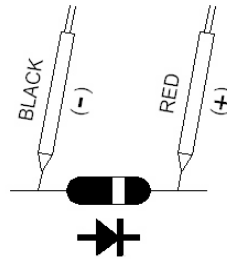

Fig. 3
- b. When connected as shown in Fig. 3, a reverse check on the diode is made. If the diode under test is good, " 1 " will be displayed. If the diode under test is defective, ".000 " or other numbers will be displayed. Proper diode testing should include both steps a. and b. above.